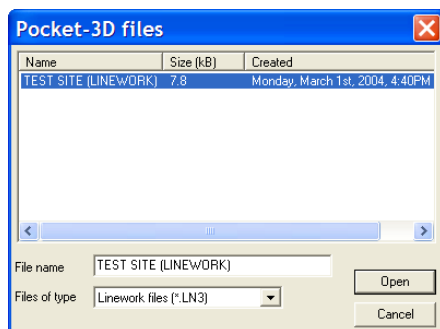

Figure 4-5. Select File and Click Open
2. On the **Pocket-3D files** dialog box, select the file type (*.ln3) and the desired file, then click **Open** (Figure 4-5).